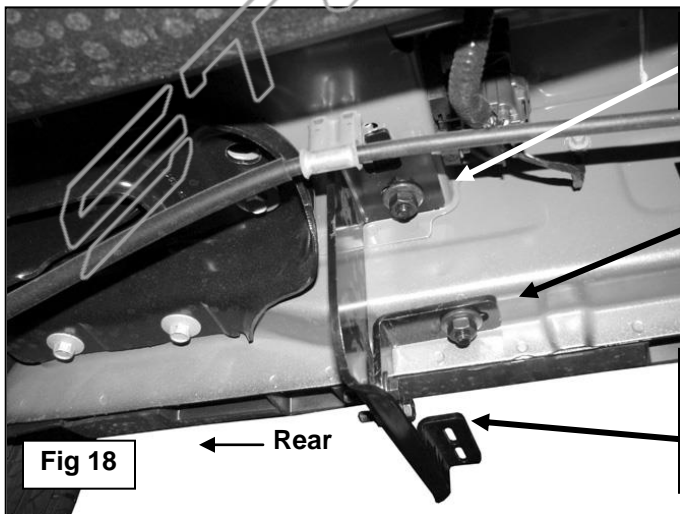

Fig 18
11. Next, locate the oval hole next to the pinch weld, **(Figure 15)**. Insert (1) 10mm x 30mm Flat Bolt Plate into the factory hole in the outer frame channel as described in **Step 1**, **(Figures 17A & 17B)**. Select the driver side rear Support Bracket. Attach the Support Bracket to the outer Bolt Plate with (1) 10mm Flat Washer and (1) 10mm Nylon Lock Nut, **(Figure 18)**. Snug but do not fully tighten hardware.
12. Select the driver side Rear Mounting Bracket. Attach the Bracket to the Short Bent Bolt Plate with (1) 10mm Flat Washer and (1) 10mm Nylon Lock Nut, **(Figure 18)**. Do not tighten hardware at this time.
13. Bolt the Mounting Bracket to the back of the Support Bracket with (2) 8mm Hex Bolts, (4) 8mm Flat Washers, (2) 8mm Lock Washers and (2) 8mm Hex Nuts. Snug all hardware but do not fully tighten.